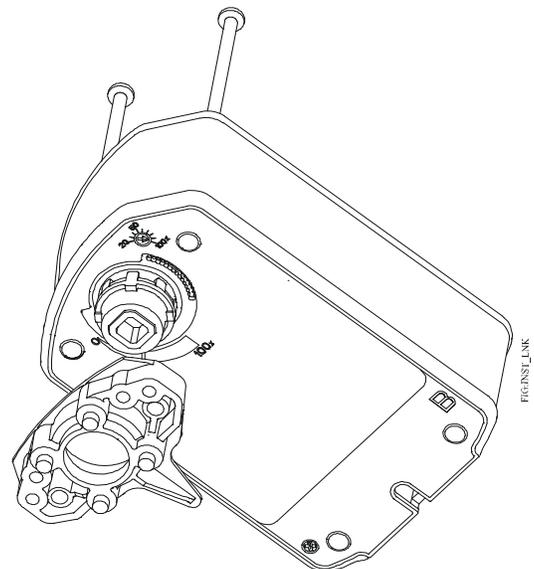

Figure 7: Installing the Linkage
5. Install linkage base on Side B using the two #10-14 x 2.75 in. long screws (Figure 7). The recommended torque is 20 to 24 lb-in. (2.3 to 2.7 N·m).